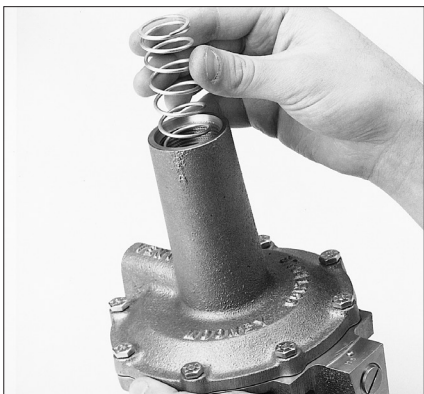

Figure 35
- Install appropriate Main Spring into Spring Case (refer to Figure 35 & Table 5).